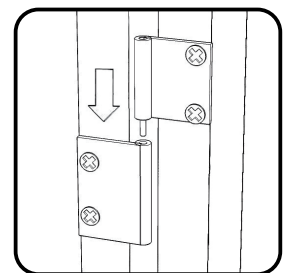

Figure 6
Attach Door (L) to unit by sliding door hinges into side panel hinges. (See Figure 6)